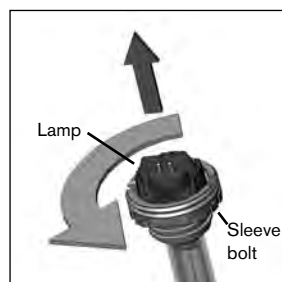

Figure 4
7. To remove the lamp from its sleeve, use a glove or cloth to support and hold on to the sleeve. Holding the sleeve bolt tight, unscrew the lamp end, the top of which protrudes 1/2" above the sleeve bolt (Figure 4). Be careful not to drop the sleeve.